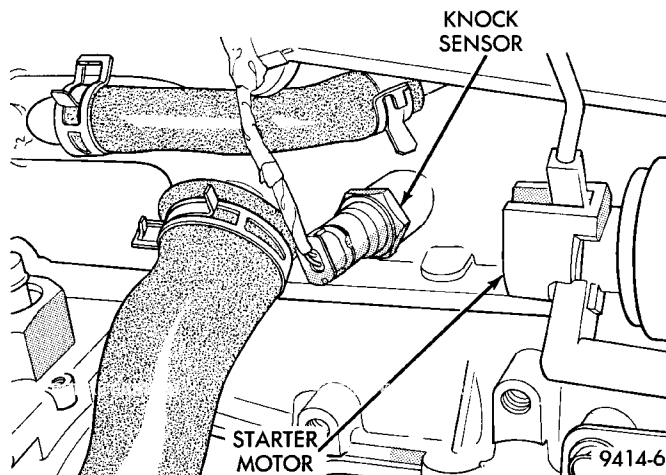

Fig. 25 Knock Sensor Electrical
(15) Disconnect knock sensor electrical connector and disconnect wiring harness from tab located on the intake manifold (Fig. 25).